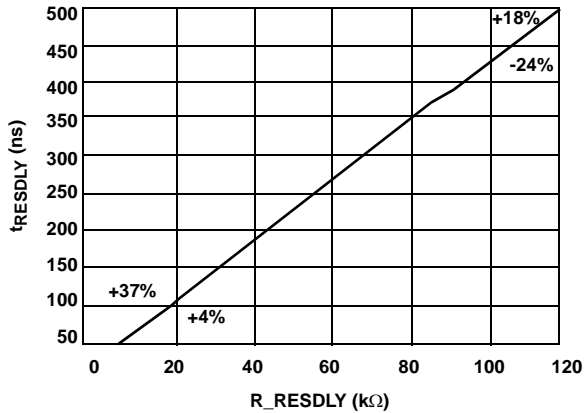

FIGURE 7. R_RESPLY vs RESPLY
- Figure 7 illustrates the relationship of the value of the resistor (R_RESDLY) and the resonant delay (t_{RESDLY}). The percentages in the figure are the tolerances at the two end points of the curve.